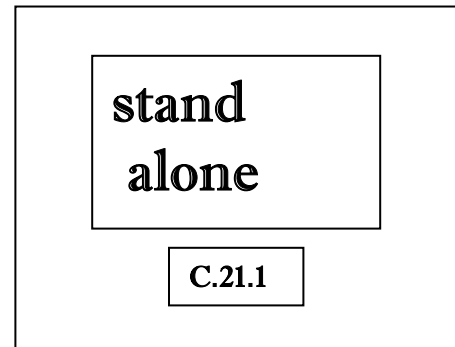

Figure 23
2. To change the setting, use the 0, 1, or 2 button on the keypad to enter a new option. See Figures 23 (Stand Alone) and 24 (mechanical interface).